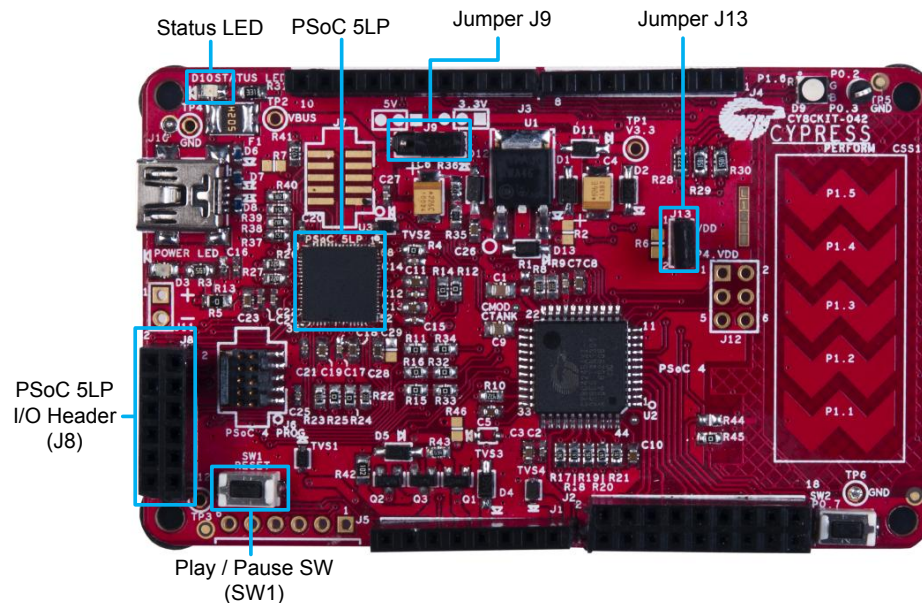

Figure 3: Pioneer Kit Hardware - Jumper settings
- Jumper J9 should be placed in the 2-3 position as shown in Figure 3.